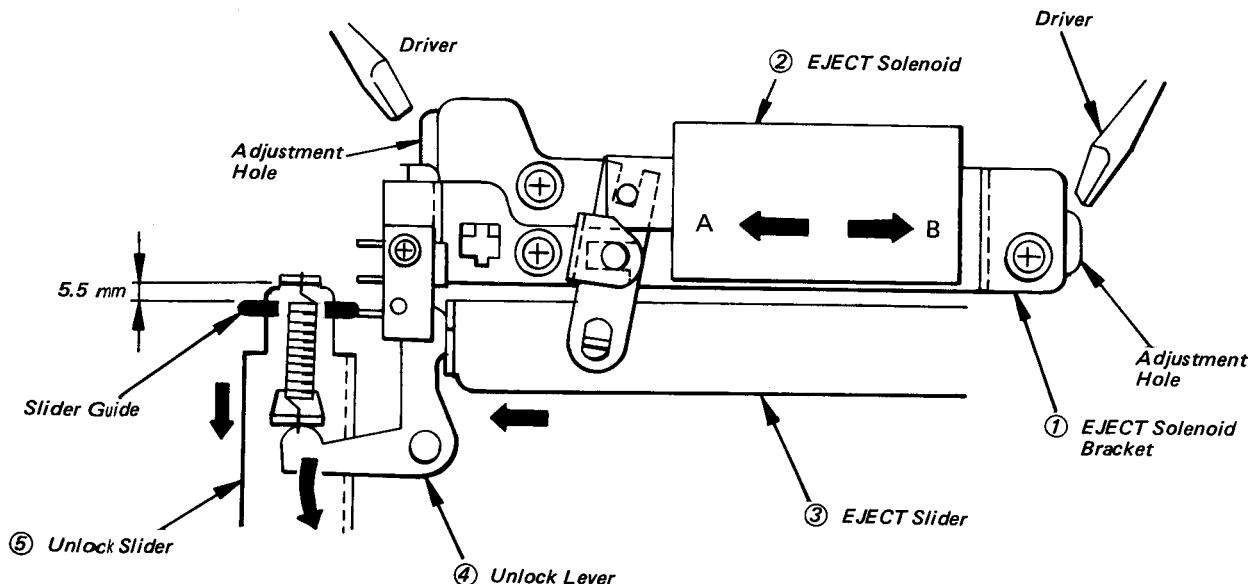

Fig. 5-74 Eject Solenoid Adjustment
23-2. Adjusting (see Fig. 5-74, 5-75)
4. Loosen the screws holding eject solenoid bracket ①. (open the Video Board.)
5. Slide the eject solenoid bracket ① in the B direction (→).
6. Set the VTR in the eject mode of operation to energize the eject solenoid ② to extract the plunger core.
7. Insert a braded screwdriver into the reel drive chassis adjustment hole and move the eject solenoid bracket ① in the A direction (←). The eject slide ③, then, actuates the unlock lever ④ to move the unlock slider ⑤ downward (↓).
8. Tighten the two screws where the clearance between the spring suspending bent portion of the unlock slider ⑤ and the slide guide on the reel drive base is 5.5 mm.
9. After adjustment, make certain that when the eject solenoid ② is energized to attract the plunger core, the eject slide ③ is cleared around 1 mm off the unloading sublever ⑥ (see Fig. 5-74, 5-75).